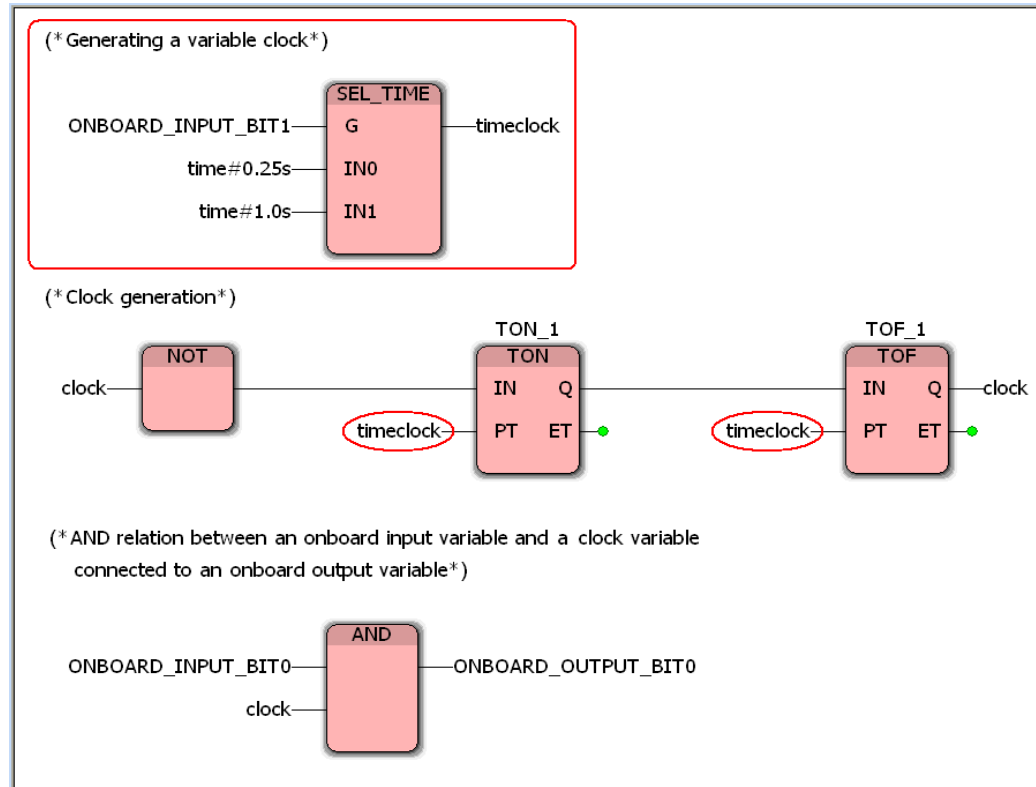

Figure 5-42 Generating a variable clock and displaying it at a controller output
Do not delete the worksheet. Modify the program created in “Generating a fixed clock” on page 58 according to Figure 5-42.
To enter the program code in the worksheet according to Figure 5-42, carry out the following steps:
- Establish all necessary connections between variables and function blocks according to Figure 5-42 on page 60.